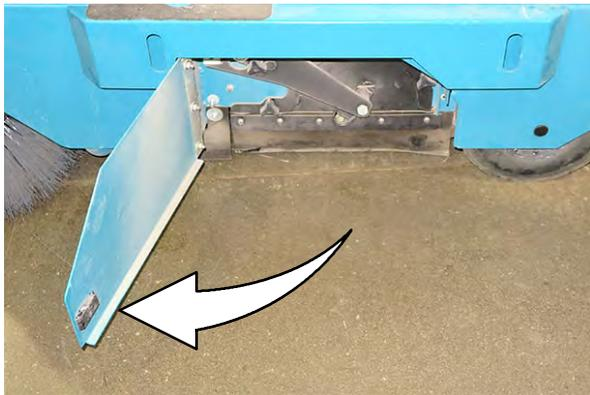

FIG. 23
34. Open the brush access door. (Fig. 23)